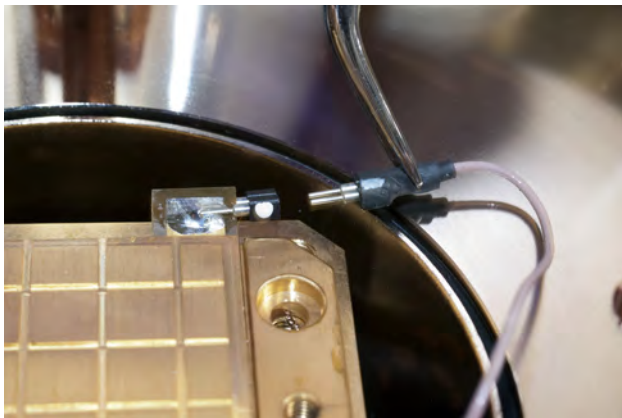

FIGURE 4-4 Left: Disconnecting the triaxial sample holder; Right: Cable plug left out after disconnecting
1. If you are removing an optional triaxial or coaxial sample holder, disconnect the signal cable before removing the sample holder from the sample stage (FIGURE 4-4). Using tweezers or your fingers, pull the cable plug out of the sample holder socket. The cable can be left as shown in FIGURE 4-4.